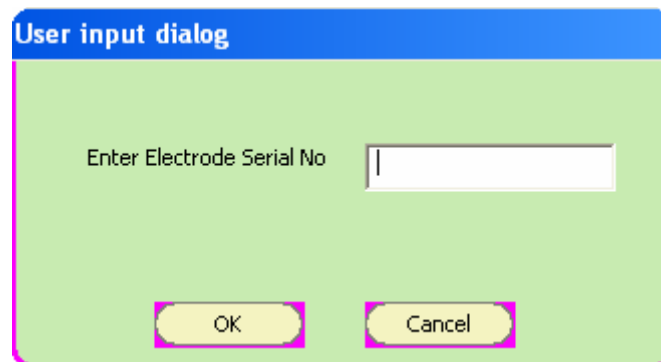

Figure 28 : Adding a new electrode
5. Click **Add new electrode** button. A dialog box appears (Figure 28)